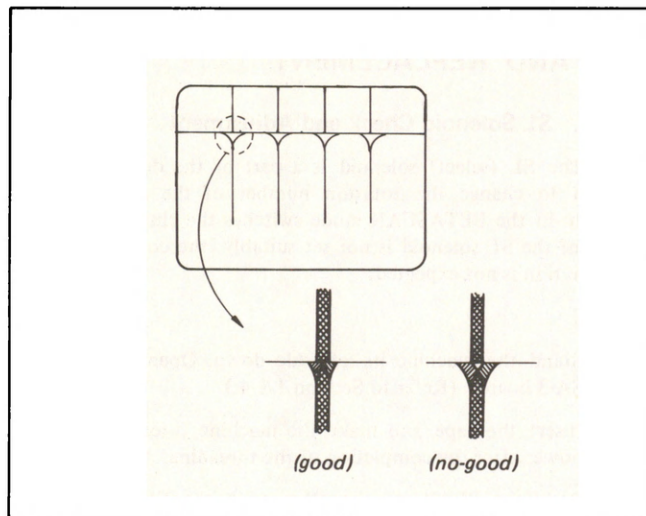
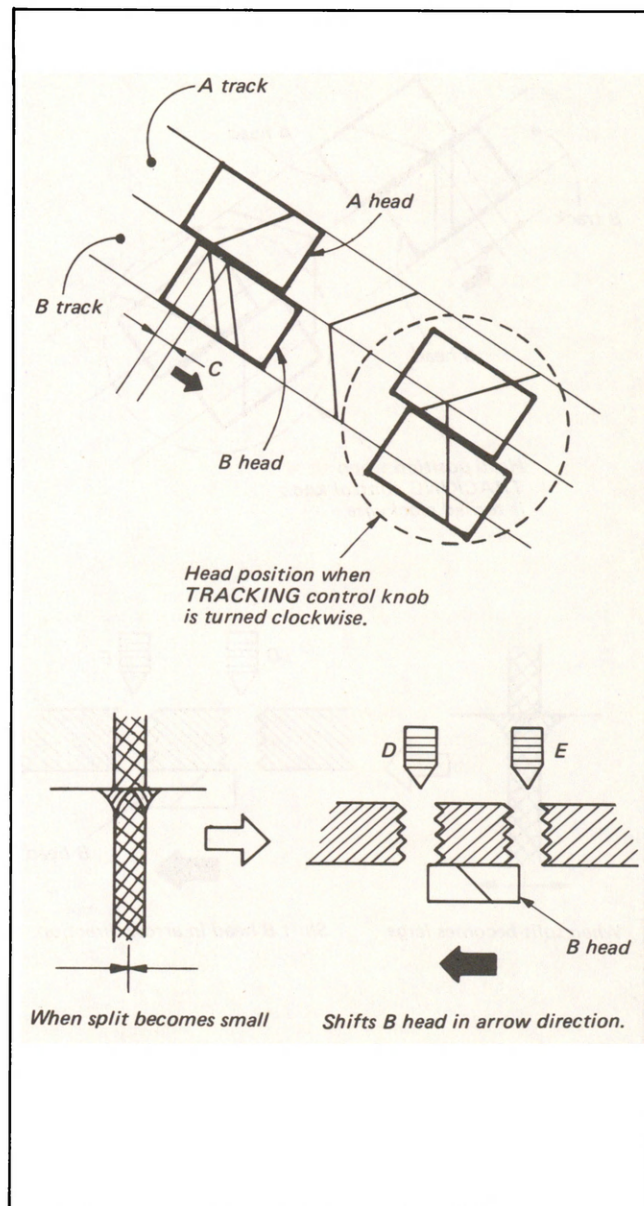
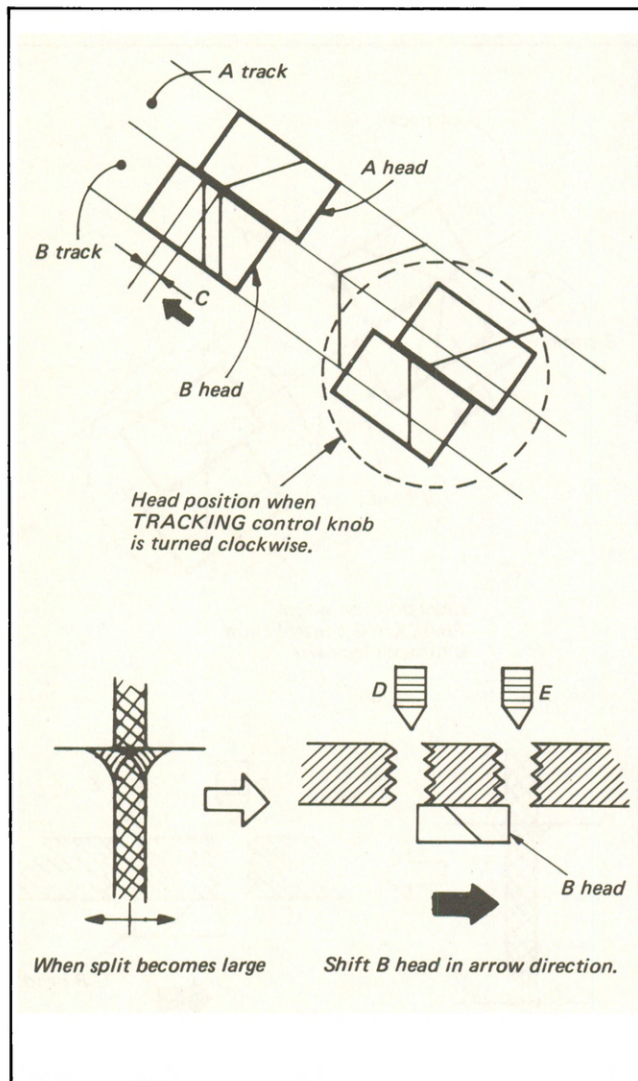

Fig. 3-55.
Fig. 3-57.
Fig. 3-58.
- The judgment of the video head dihedral must be performed in the condition that the monoscope signal segment of the alignment tape (KR5-1S) is played back and the TRACKING control knob is set to the center detent position. (See Fig. 3-55.)
- (1) When the split becomes small for the clockwise turn of the TRACKING control knob, the B head shifts by C in the arrow direction as shown in Fig. 3-57 and is tracing the magnetic pattern on the tape. The adjusting screw in adjustment hole E shown in the figure must be tightened further to shift the B head in the left direction until the good dihedron shown in Fig. 3-55 is obtained.
- (2) When the split becomes large for the clockwise turn of the TRACKING control knob, the B head shifts by C in the arrow direction as shown in Fig. 3-58 and is tracing the magnetic pattern. The adjusting screw in adjustment hole D shown in the figure, must be tightened further to shift the B head in the right direction until the good dihedron shown in Fig. 3-55 is obtained. Set the TRACKING control knob to the center detent point.